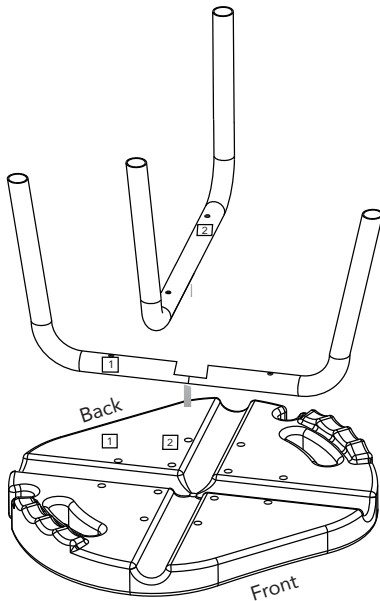
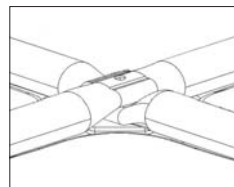

Figure 1.
Figure 2.
**1** Place seat face-down on a table or counter with the FRONT edge closest to you (BACK edge has the shower sprayer notches, FRONT edge does not). Place U bar labeled "1" in the groove in the seat which extends from BACK LEFT corner of seat to RIGHT FRONT corner of seat, as shown in Figure 1., above. Place the U bar labeled "2" in the other groove, on top of U bar "1." **NOTE:** when placed correctly, the 2 U bars will align at the center as shown in Figure 2., above.